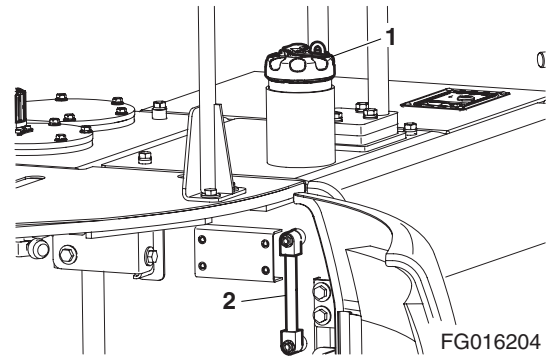

Figure 5
12. Clean area around fuel tank fill cap (1, Figure 5). Open fuel cap.